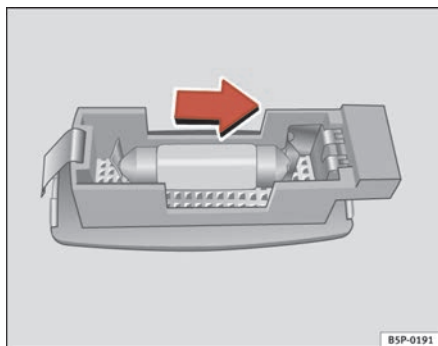

Fig. 201 Removing sunroof light
- Carefully remove the lamp, using the flat side of the screwdriver, as shown in the figure ⇒ fig. 201.
- Remove the lamp, moving it in the direction of the arrow and outwards ⇒ fig. 201. ■